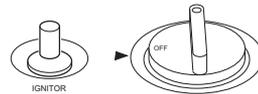

Figure 19 - Control Knob In The OFF Position
4. Wait five (5) minutes to clear out any gas. Then smell for gas around heater and near the floor. If you smell gas, STOP! Follow "B" in the safety information above. If you don't smell gas, go to the next step.
5. Press in control knob and turn counterclockwise ↺ to the PILOT position. Keep control knob pressed in for five (5) seconds (see Figure 19).